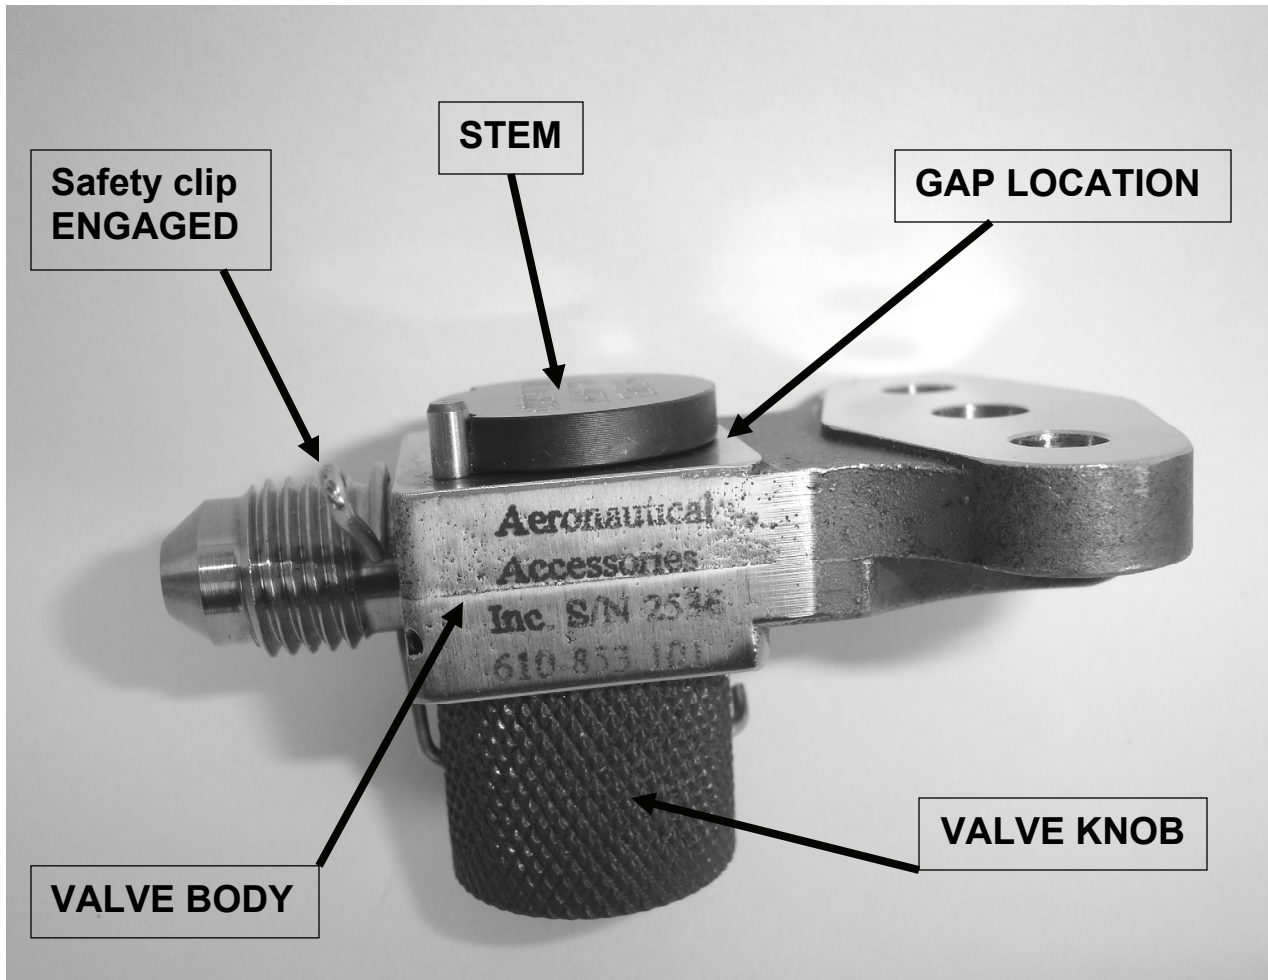
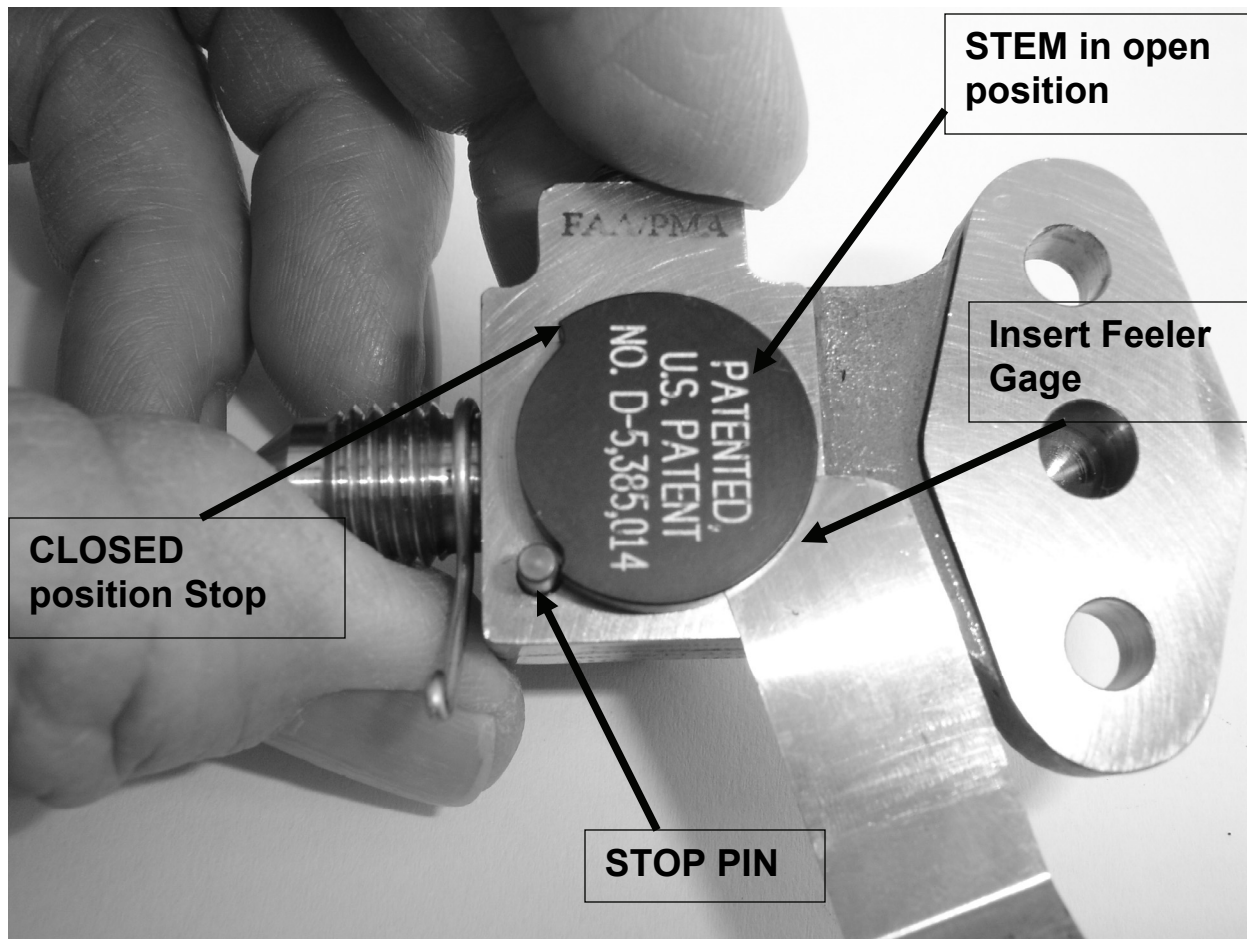

FIGURE 1 – P/N 610-853-101 IN OPEN POSITION
FIGURE 2 – P/N 610-853-101 IN OPEN POSITION (STOPS VISIBLE)
3. Identify location of the stem. (Reference Figure 1, part removed for clarity)
5. While manually turning the knob from stop to stop, visually or by touch, verify that the opposite end of the stem to which the knob is attached rotates in unison with the knob. There should be distinct stops at both ends of travel (reference Figure 2). If distinct stops at both ends of travel are not detected, the valve stem has been compromised and the unit should be immediately returned to Aeronautical Accessories, Inc. for repair.
7. Inspect the gap between the tip of the stem and the valve body opposite the knob (reference Figure 1). The gap between the stem and the valve body should be a maximum of .017 inches. Use a standard feeler gage to determine the actual gap distance (reference Figure 2). Any gap measurement greater than .012 inches warrants closer inspection to determine if the stem has been compromised. If the gap exceeds .017 inches, the valve stem has been compromised and the unit should be immediately returned to Aeronautical Accessories, Inc. for repair.